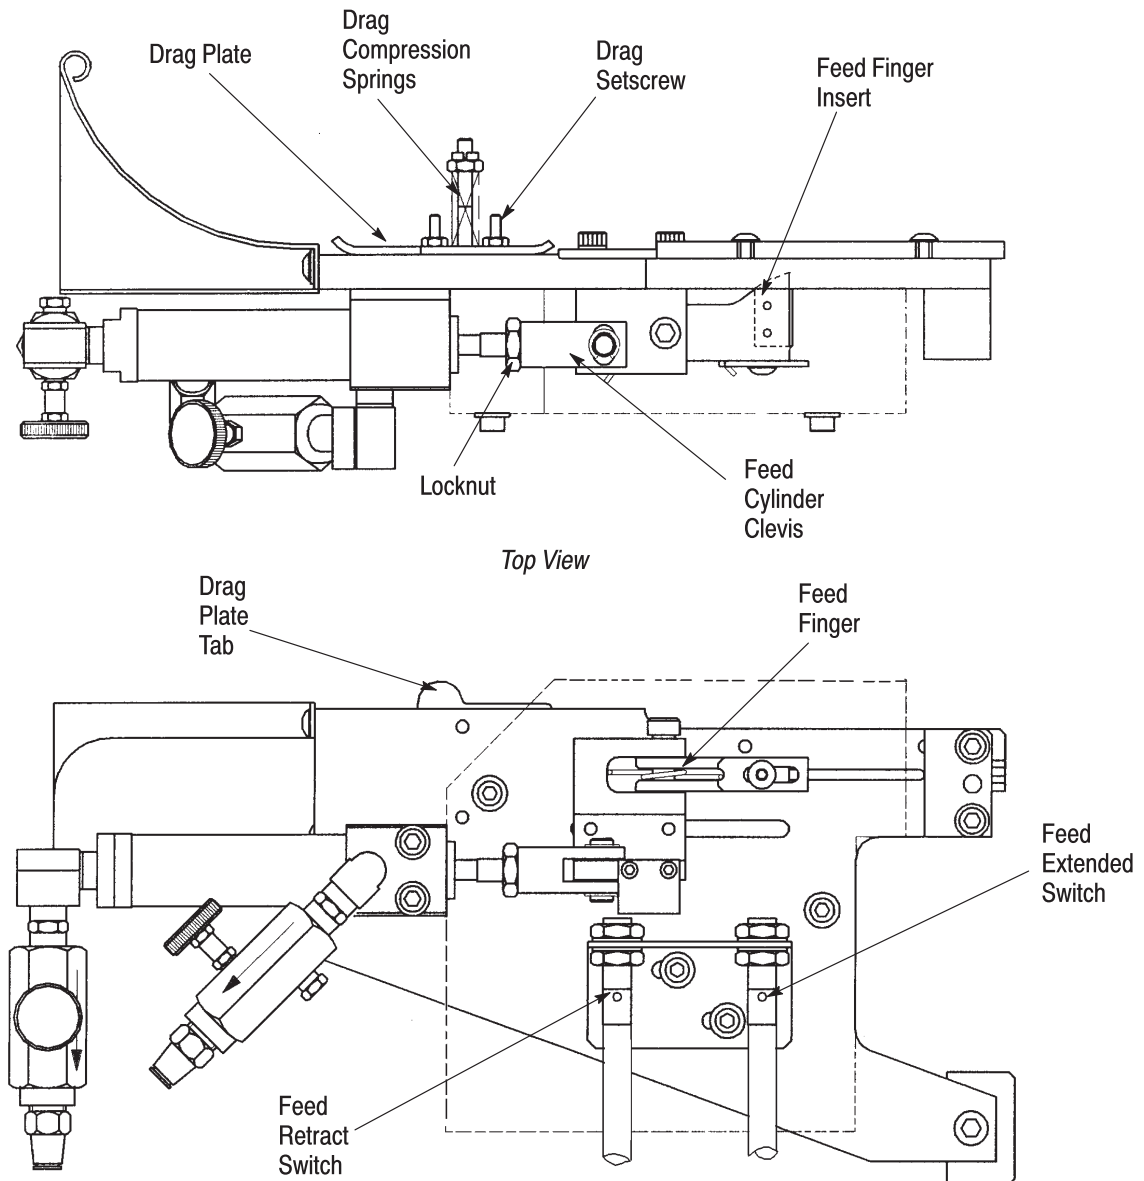

Figure 20
6.2. Feed Adjustments (Figure 20)